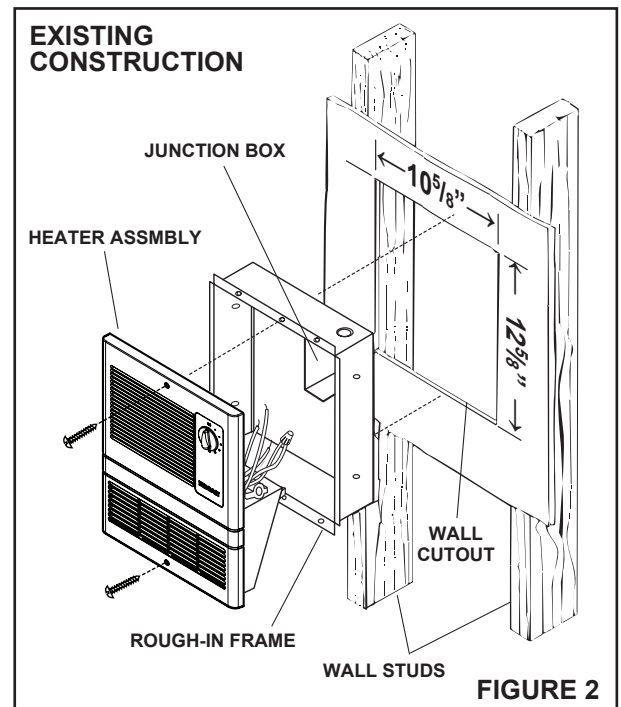

FIGURE 2
2. **Refer to Figure 2.** Make wall cutout next to a wall stud. Cutout size: 125/8" high x 105/8" wide with frame.)